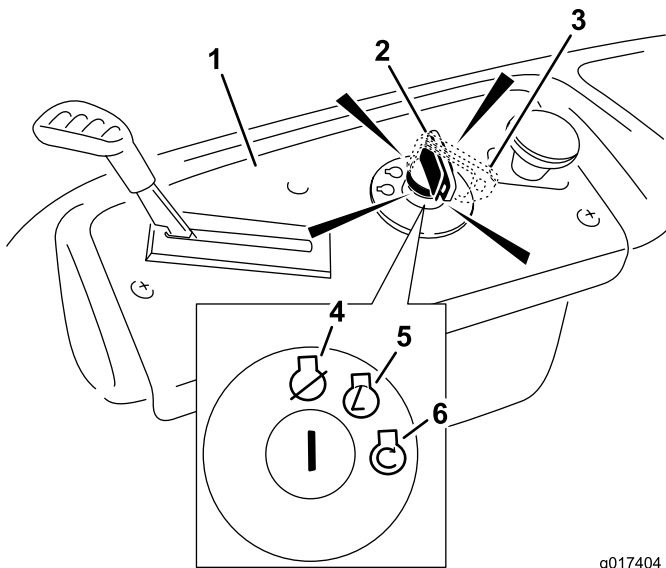

Figure 13
4. Turn the ignition key to Start to energize the starter. When the engine starts, release the key (Figure 13).
2. Move the throttle lever to the Fast position (Figure 13).